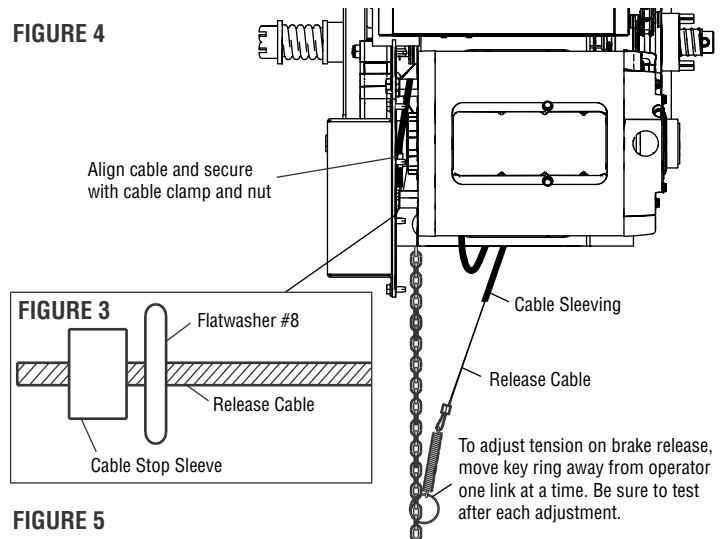

FIGURE 3
3. Take the release cable assembly and feed the release cable and sleeving through the cable clamp installed in step 1. Once you get to the brake release lever, feed only the release cable through the eyelet. Secure in place by installing a flatwasher #8 and a 1/16" cable stop sleeve. Secure cable stop sleeve in place by crimping down on it with pliers (Figure 3).